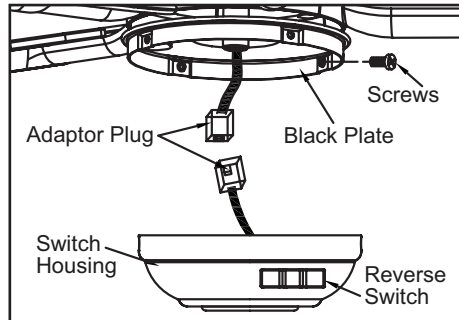

Figure 16
2. Remove the four screws on the black plate below the fan motor assembly (Figure 16).
3. Mount the switch housing to the black plate below the motor by aligning the four screw holes and securing with the four screws that were removed in the 2 step (Figure 16).